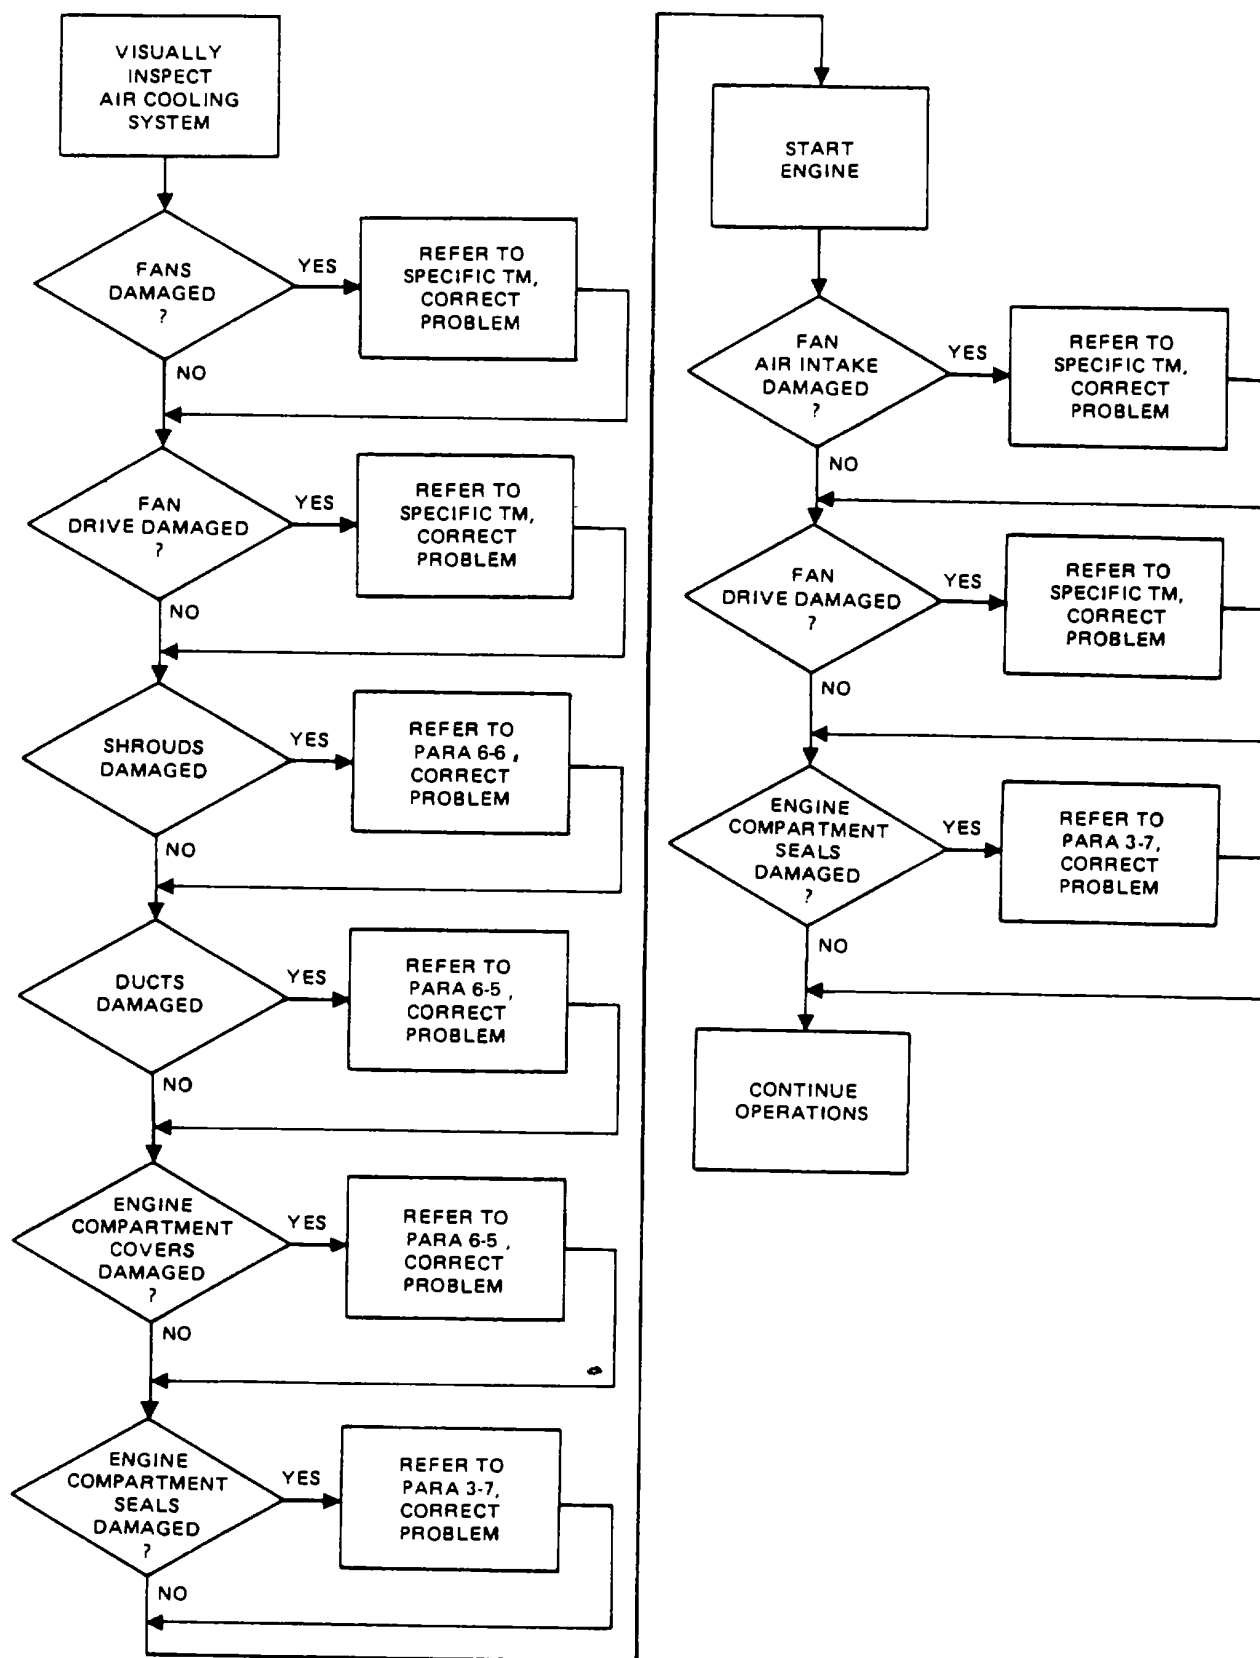

Figure 6-1. Air Cooling System Failure Assessment.
*a. Air Cooling System Assessment.* Air cooling system assessment procedures are structured using the logic process shown in figure 6-1.